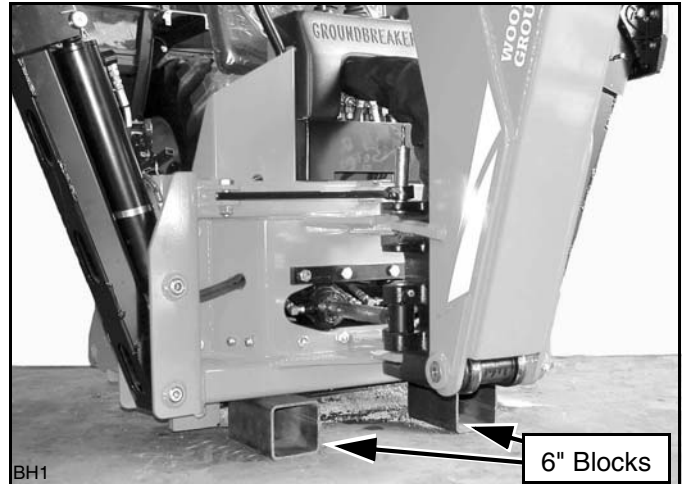

Figure 9. Backhoe Storage Position (Typical)
7. Place 6" blocks under backhoe mainframe and raise stabilizers to lower the backhoe onto the blocks as shown in Figure 9. Adjust blocks to make backhoe stable.